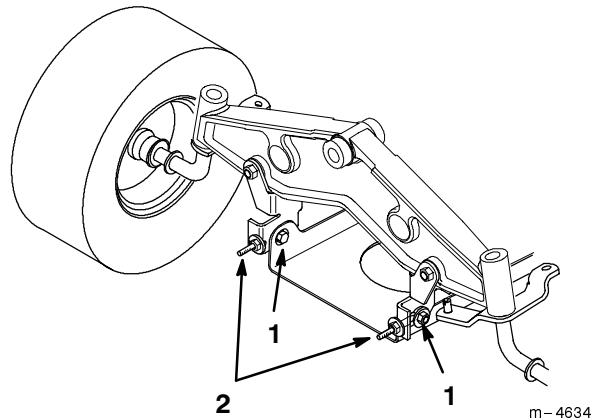

Figure 50
7. To adjust front-to-rear blade slope loosen front pivot plate mounting bolts slightly (Fig. 50).
8. Rotate lock nuts on eyebolts to change adjustment (Fig. 50). To raise the front of the mower, tighten the eyebolt lock nuts. To lower the front of the mower, loosen the eyebolt lock nuts.
9. After adjusting both eyebolt lock nuts evenly, check the front-to-rear slope again. Continue adjusting eyebolts until the front blade tip is 0-3/8" (0-9.2 mm) lower than the rear blade tip (Fig. 50).
10. When front-to-rear slope is correct, tighten the pivot plate mounting bolts (Fig. 50).